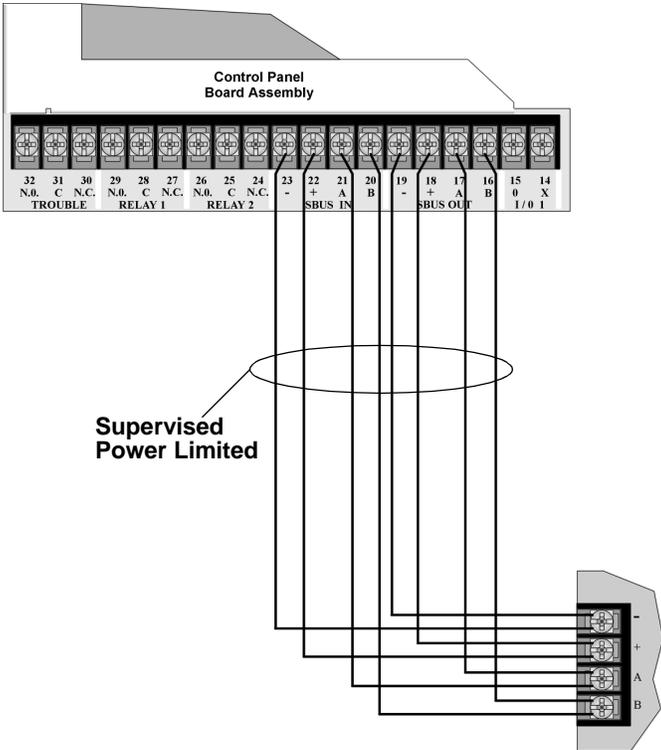
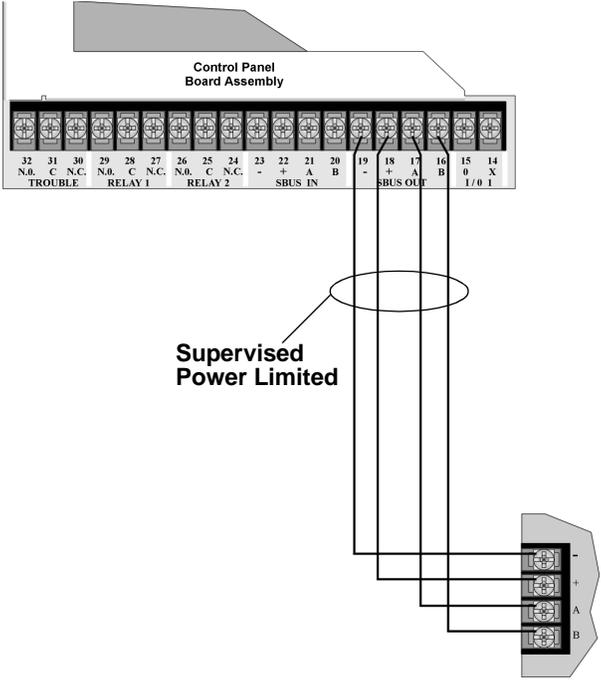

Figure 4-8 SBUS Class A Wiring
Figure 4-9 SBUS Class B Wiring
Figure 4-8 illustrates Class A wiring configuration and Figure 4-9 illustrates Class B configuration.
3. Wire the Annunciator board to the main control panel. See Figure 4-9.